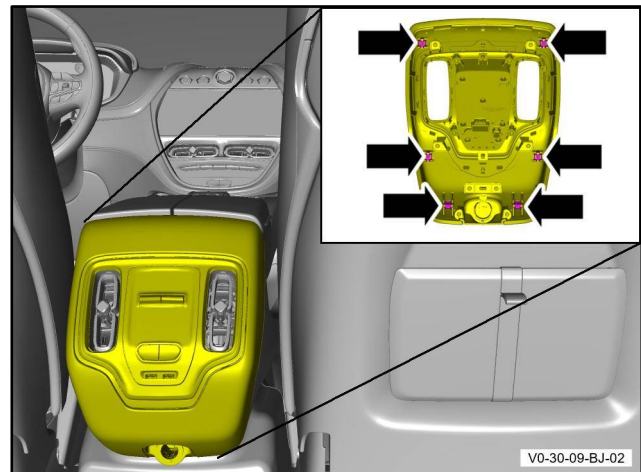

Figure 45
5. Install the end cap to the centre console (refer to Figure 45).